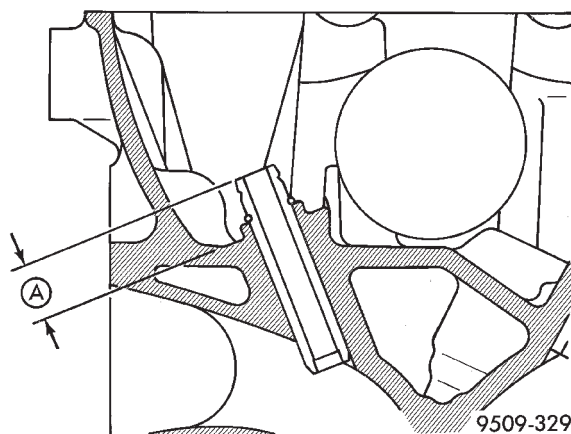

Fig. 107 Valve Guide Height
(6) Check valve guide height (Fig. 107).